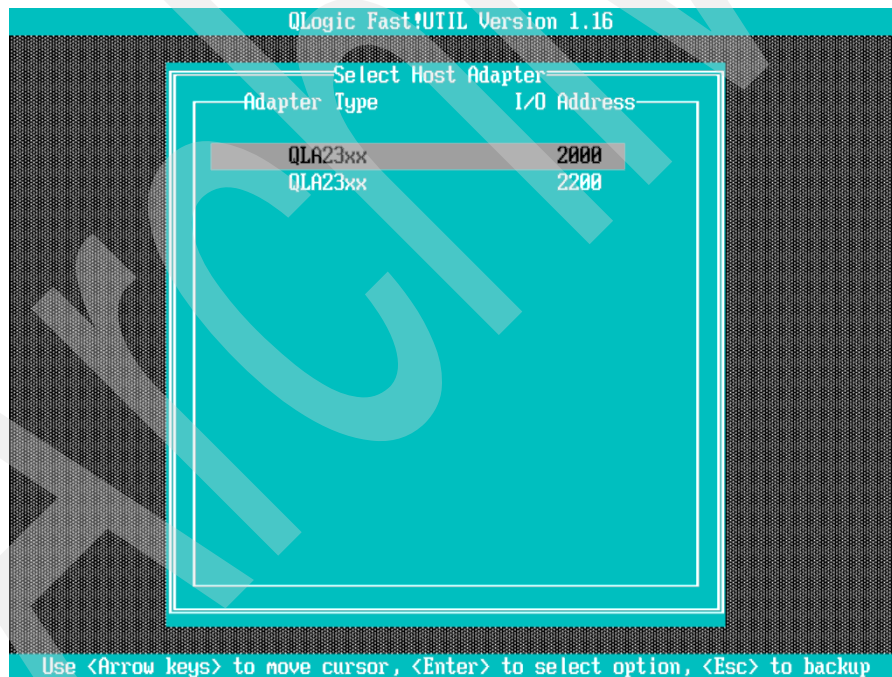

Figure 28-4 Select the first HBA
2. In the QLogic Fast!Util, highlight the first HBA and press Enter, as shown in Figure 28-4.